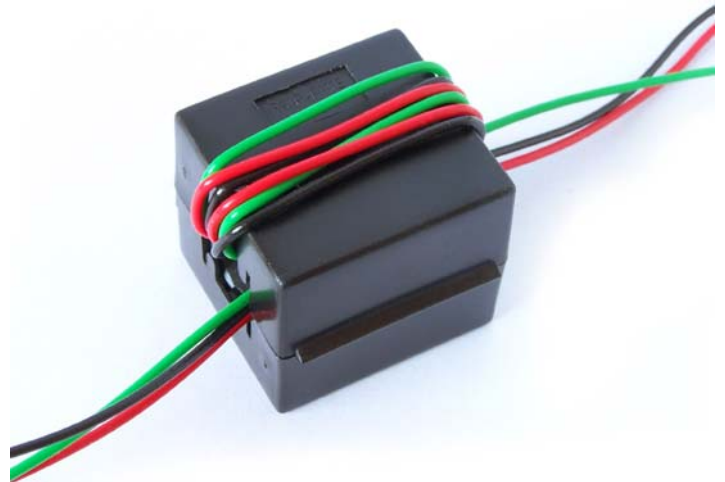

FIGURE 4. Ferrite clamp locked on 3 wires
5. Press the ferrite clamp around the wires until the latch at one end of the clamp snaps over the ears on the other end of the clamp. (See Figure 4.)